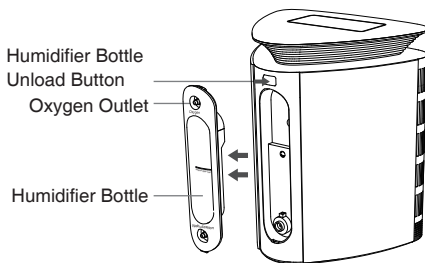

Figure 3 Removal of the Humidifier
1. Press the humidifier bottle unload button (Figure 3) and remove the humidifier bottle.